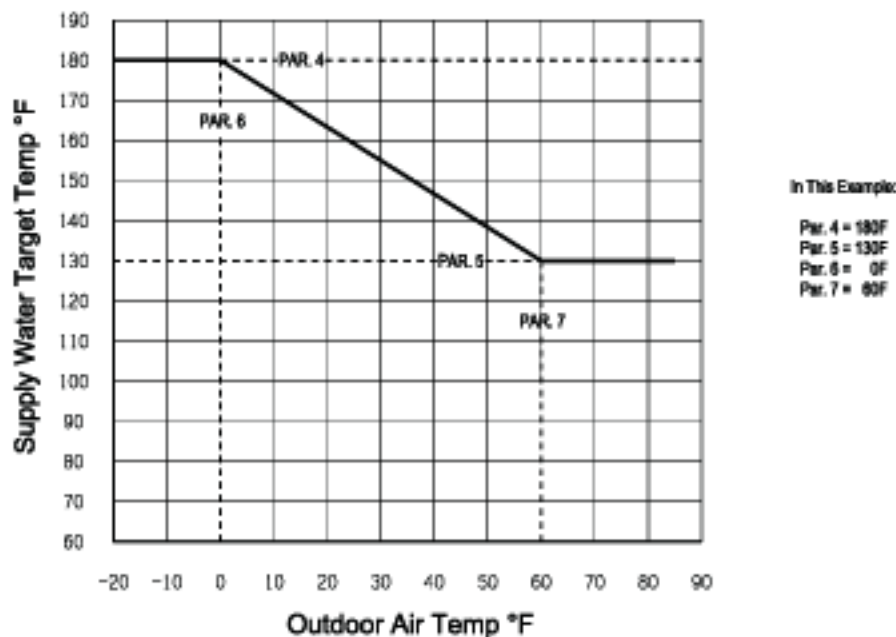

Figure 11.4: Outdoor Reset Curve
- 4) If an outdoor sensor is installed, the boiler will automatically adjust the heating zone set point temperature based on the outdoor reset curve in Figure 11.4. The maximum set point is defined by parameter 4 (factory set to 180°F) when the outdoor temperature is 0°F or below. The minimum set point temperature shown is 130°F when the outdoor temperature is also 60°F or above. As the outdoor temperature falls the supply water target temperature increases. For example, if the outdoor air temperature is 30°F, the set point temperature for the supply water is 155°F.
- e) Once the flame stabilization period has ended, the MCBA allows the burner to modulate. The actual firing rate is dependent upon the measured current and recent differences between the set point temperature and the supply temperature. If an outdoor sensor is connected to the control module and the boiler is responding to a call for heat, the set point temperature will be determined by the outdoor reset curve shown in Figure 11.4.